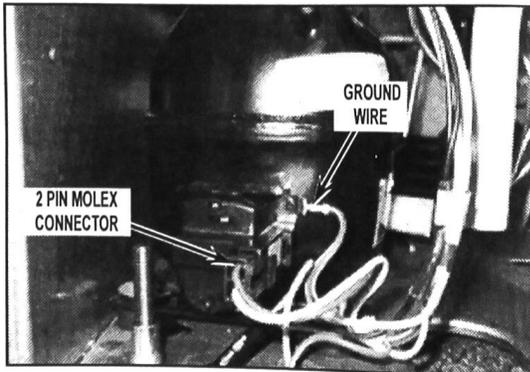

FIGURE 2
4. Unplug the 2 pin molex connector and ground wire that are attached to the compressor electricals. See Figure 2.